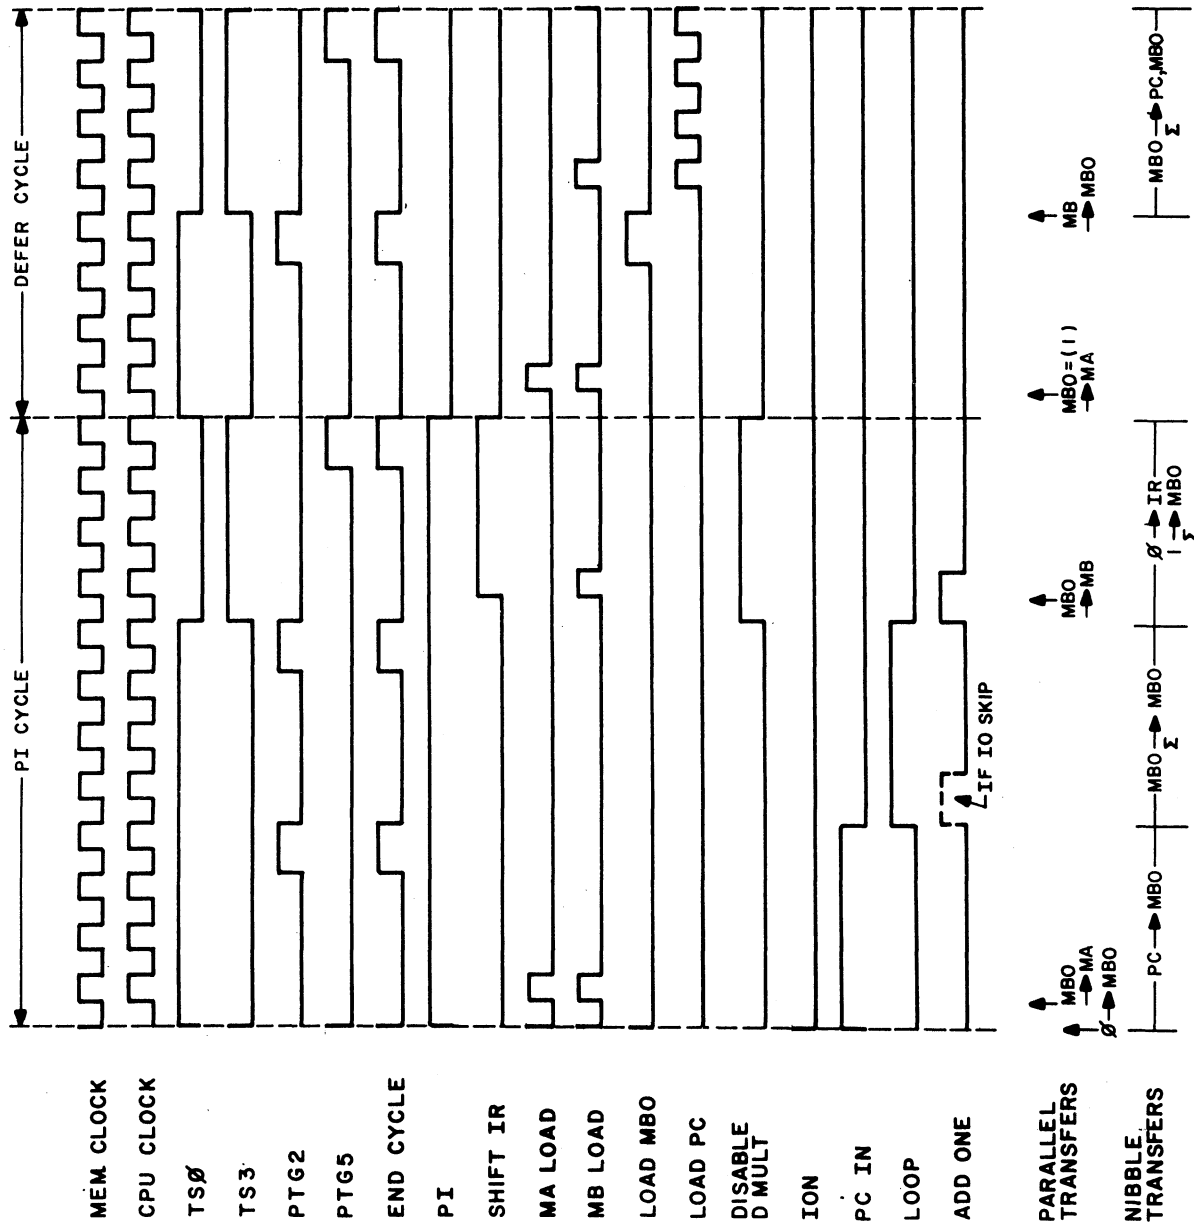

Figure 4-12. PI Timing Diagram
4-2.6.12 Program Interrupt (PI) Cycle. Figure 4-12 is a timing diagram for the PI cycle. As mentioned previously the MBO is zero at the start of a PI cycle. The contents of the MBO are loaded into the MA and the PC is Nibble loaded into the MBO. LOOP is set by END CYCLE. If the ION flip-flop has been set and an INTR signal is received, the PI stage of the major states register will become set, starting the PI cycle. The \overline{PI} output at the low level clears the ION flip-flop. If TEST SKIP was set during the previous cycle the SKIP flip-flop will be set and the MBO will be incremented as it passes through the adder. Conversely if TEST SKIP was not set, the MBO will not be incremented as it passes through the adder. The contents of the MBO are transferred to the MB and zeroes are shifted into the IR. The effectively loads a JUMP to location 0 instruction into the IR. The MBO is set to a "1" at the end of the PI cycle. The MBO is transferred to the MA to access the instruction in location 1 and the MBO is loaded with the subsequent memory output. The contents of the MBO are then passed through the adder and Nibble loaded into the PC. The next cycle will be a Fetch cycle to perform the JUMP operation.